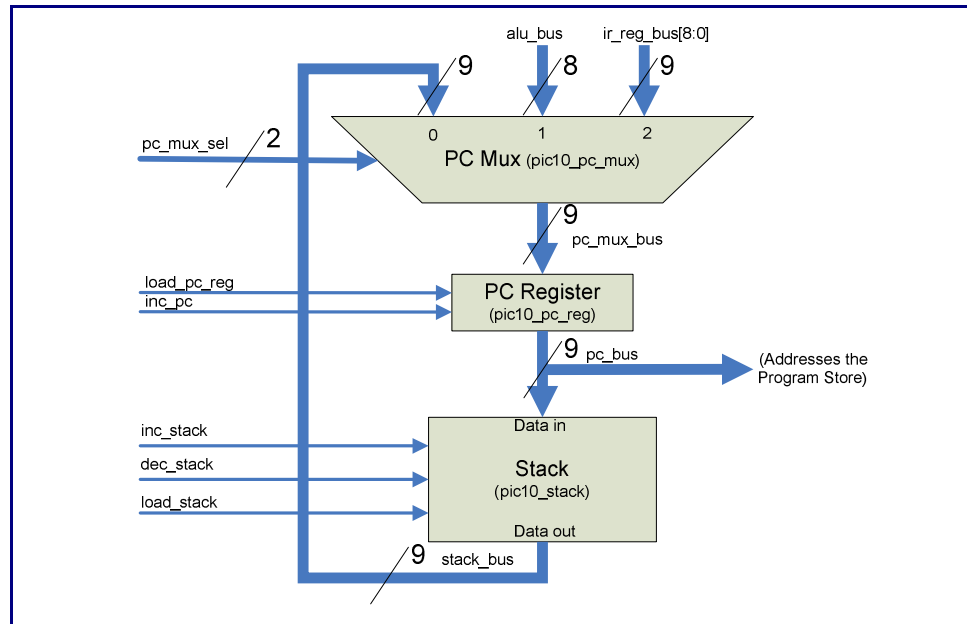

Figure 8. The 'pic10\_pc\_datapath' module contains the logic required to interact with the Program Counter register.
The 'pic10\_pc\_datapath' module contains the Program Counter (PC) register and the stack. Since the PC register can be loaded from 'alu\_bus',17 from a literal in the instruction word18 or from the stack19 a multiplexer is needed to select where the data loaded into the PC register should come from. The resulting datapath is shown below in Figure 8.
As Figure 8 shows, the 'pc\_mux\_sel' input selects the source of the data on the 'pc\_mux\_bus'. The 'pic10\_pc\_reg' register is loaded on the rising edge of the clock signal when the 'load\_pc\_reg' signal is asserted. The 'inc\_pc' signal is used to increment the Program Counter as each instruction is executed. The 'inc\_stack' and 'dec\_stack' signals are used to select which stack register will be loaded when the 'load\_stack' signal is asserted. The 'stack\_bus' always outputs the data in the current stack location (i.e. the data previously written to the stack location).